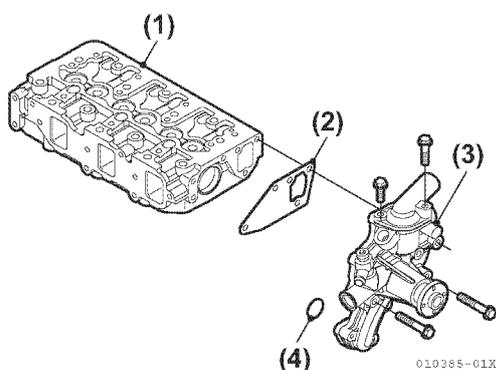

Figure 5-166
- Replace the O-ring for the connecting part of the pump, which is inserted in the cylinder block, and tighten the freshwater pump to the specified torque (Figure 5-166).